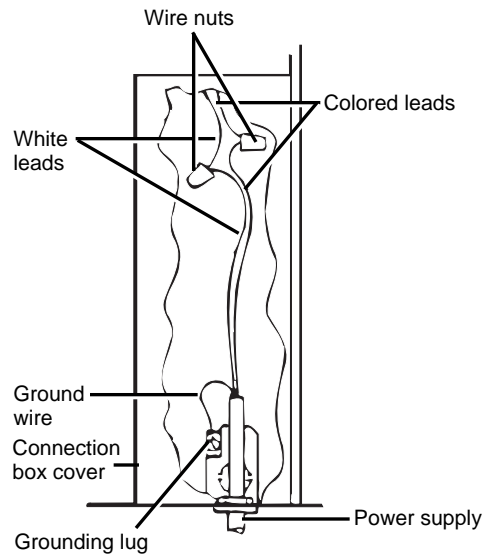
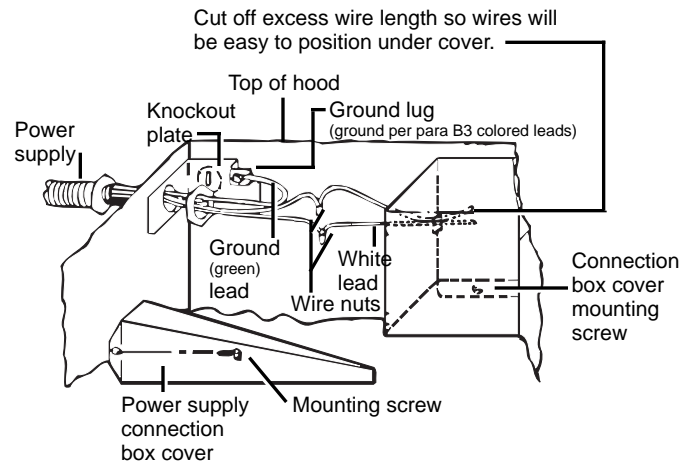

FIGURE 12
FIGURE 13
1. Take out 1 screw and remove the power supply connection box cover located on the underside of the hood (See Fig. 13 Model: JV327) (See Fig. 12 Models: JN327, JV337 & JV347).
4. Connect the colored incoming power supply lead to the stripped black lead and connect the incoming white neutral lead to the stripped white lead in the connection box as shown in Figs. 12 and 13. Make connections in the hood in accordance with local codes.
5. A ground lug is provided for proper grounding of the hood frame. It is recommended that the hood frame be grounded in accordance with National Electrical Code and local codes (see Figs. 12 and 13).